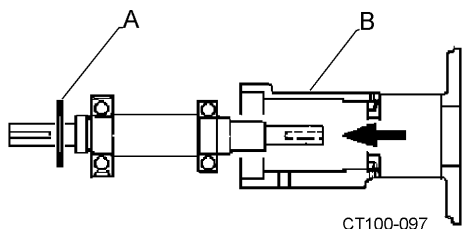

Figure 48 - Bearing Shaft Assembly Removal
10. Push the shaft and bearing assembly out of the housing from the impeller end. (Figure 48).
11. Remove the retaining ring and press the bearings off the shaft (Figure 48, items A and B).